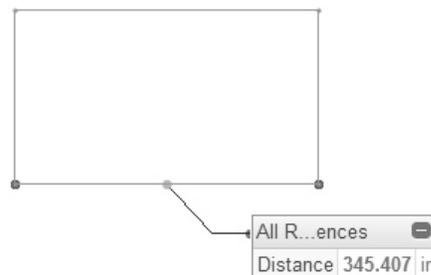

Figure 2-25 Distance measurement
2. Hold the CTRL key and then click on the entities. The color of the entities changes from orange to green and the distance between them will be displayed in a box, as shown in Figure 2-25.